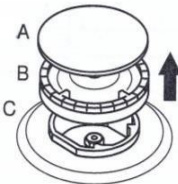

Figure 19
Remove the burner cover and burner as shown in the Figure 19. Remove the injector by help of 7's socket screw driver as shown in the Figure 19.1. Fix the injector (D) you want to convert as shown in the Figure 19.2 (see Table 1). Put the burner in place again as shown in the Figure 19.3. Upon completion of the conversion, then burn the burners in order and remove the switch on the control panel and adjust the low flame length by tightening or untightening the screw on the gas valve (19.4 cock) or inside the valve shaft.